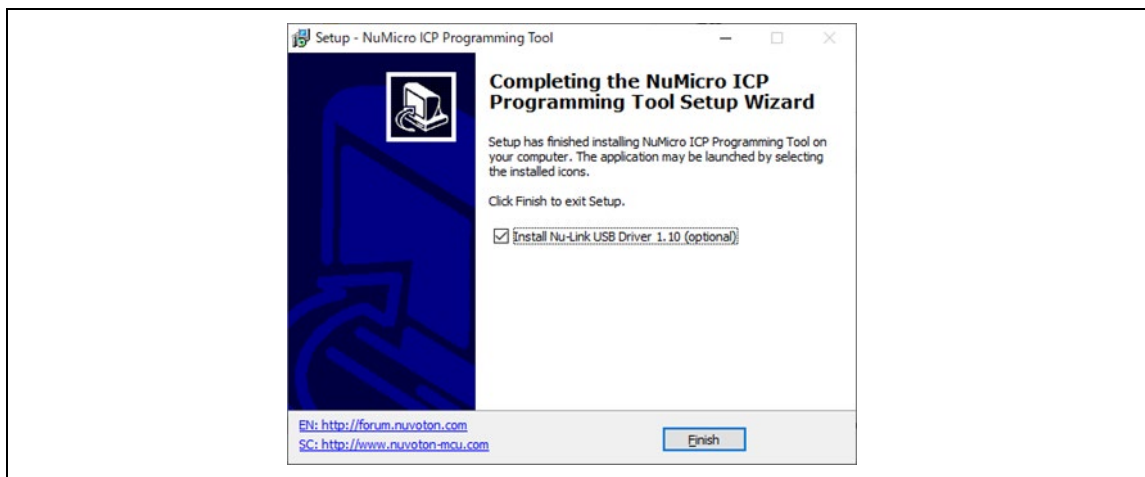

Figure 4-28 Final Screen of ICP Installation
2. Figure 4-28 shows the final screen of ICP installation. Installing ICP Check “Install Nu-Link USB Driver @.@@(Optional)” in the last Figure 4-28 and check the <Finish> button.